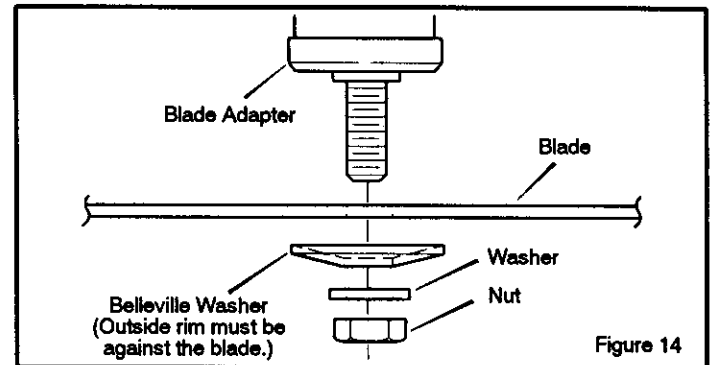

Figure 14
8. Fasten the blade with the original washers and nut. Make sure the outside rim of the Belleville washer is against the blade (Figure 14).